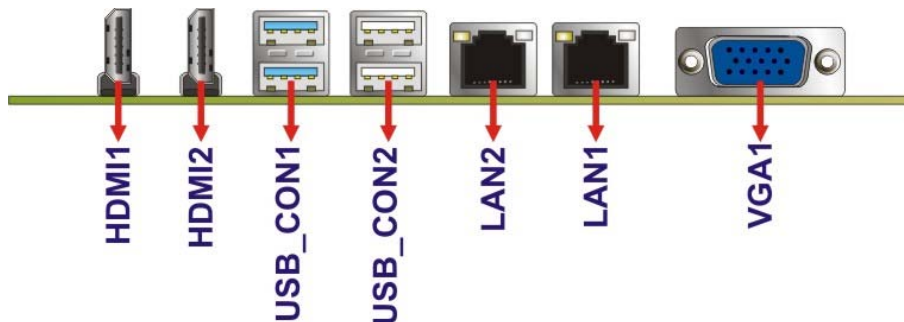

Figure 3-27: External Interface Connectors
The NANO-QM871-i1 on-board external interface connectors are shown in **Figure 3-27**.
CN Location:	See Figure 3-27
CN Location: See **Figure 3-27**
- CN Location:** See **Figure 3-27**